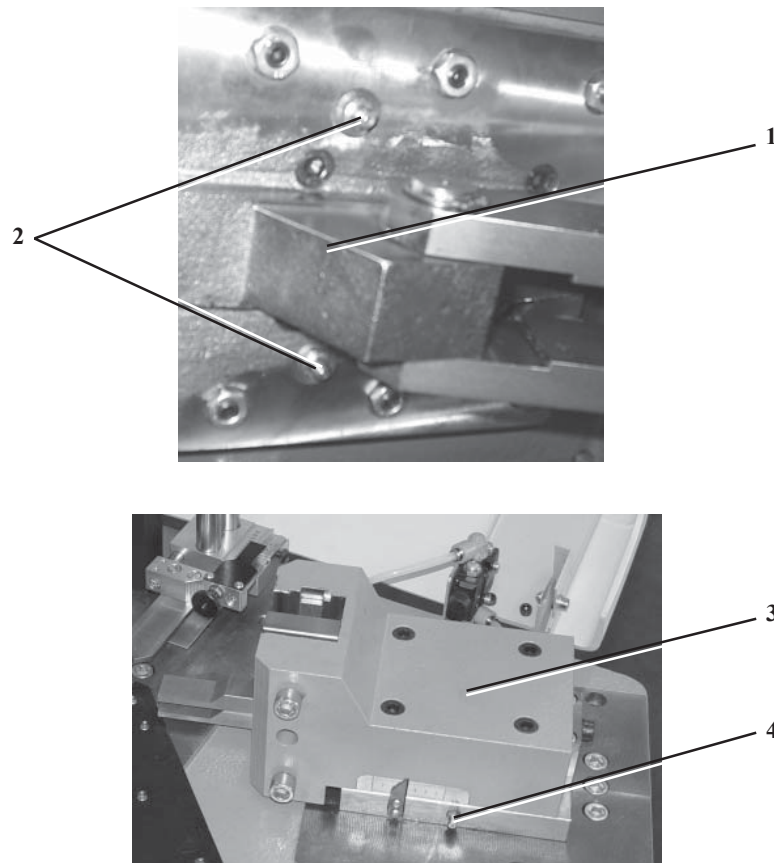

Fig. 7.3
- With a grease gun lubricate the slideways of lower slide(1, fig. 7.3) inserting greas (we suggest «MOBILUX EP2» or similar) into the relevant grease nipples (2)until fill them up.
- With a grease gun lubricate the slideways of crimping head (3), inserting greas (we suggest «MOBILUX EP2» or similar) into the relevant grease nipples (4) until fill them up.